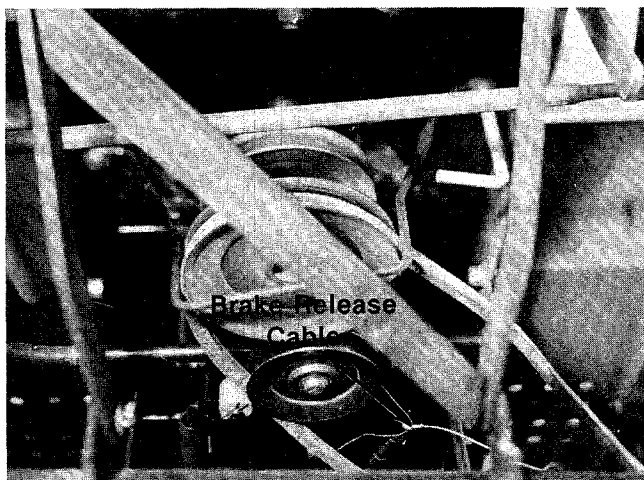

FIGURE 8.
10. Place the deck belt around the engine pulley and idler. (See figure 8.)